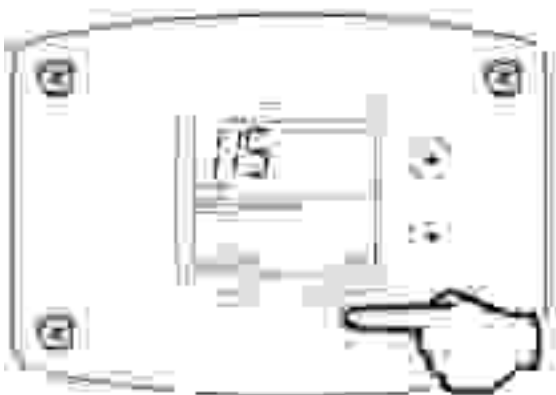

Fig. 56
2. Press the 'Set' button to enter the setting mode. 'Setpoint' will flash in the water heater display (Fig. 56).